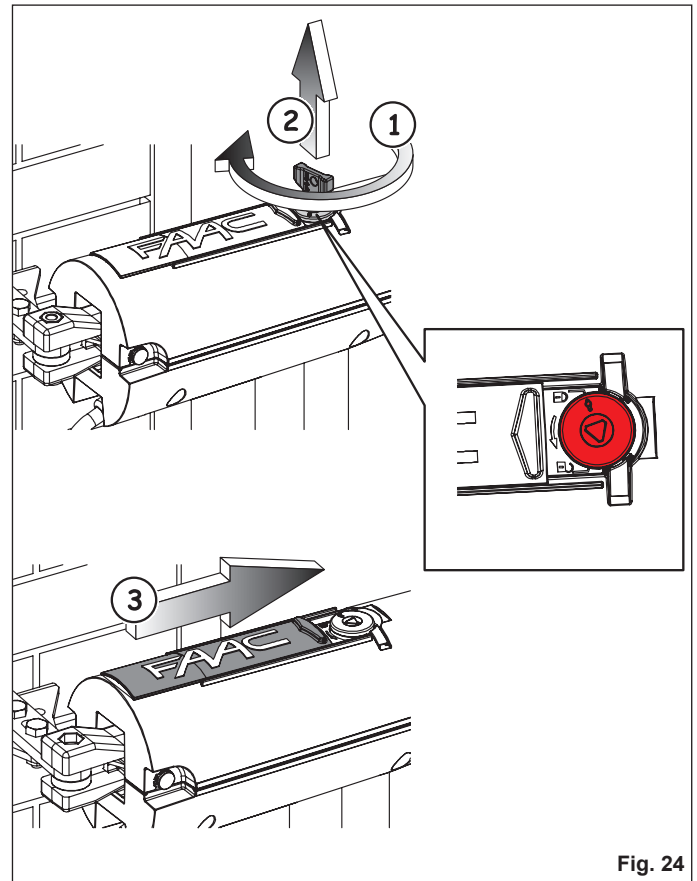

Fig. 24
2. Turn the release key clockwise until it stops, Figure 24 Ref. 1, and remove the key, Figure 24 Ref. 2. The locking position is indicated by a closed padlock.
3. Close the protective cap, Figure 24 Ref. 3.